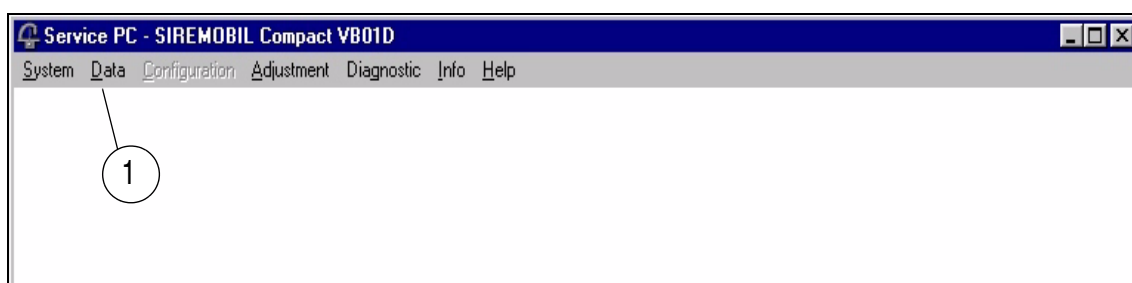

Fig. 1
- The program window " Service PC- SIREMOBIL " (Fig. 1) is displayed.
- Select the "Data" menu in the "Service PC- SIREMOBIL .." main window (1/ Fig. 1).